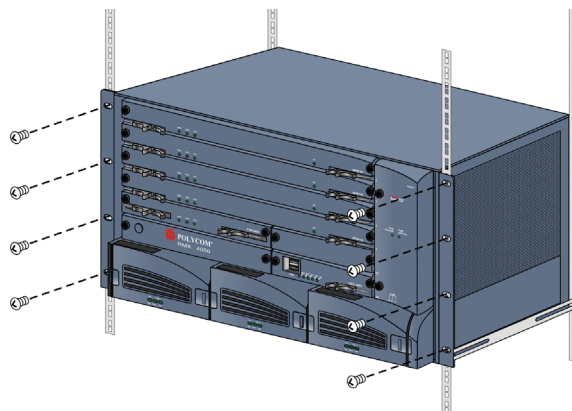

Figure 1-8 RMX 4000 Rack Mount
- 3 Fasten the RMX to the rack with 8 screws into the holes provided on the RMX's front as shown in Figure 1-8.
- 4 Fasten the RMX to the rack with 8 screws into the holes provided on the RMX's front as shown in Figure 1-8.